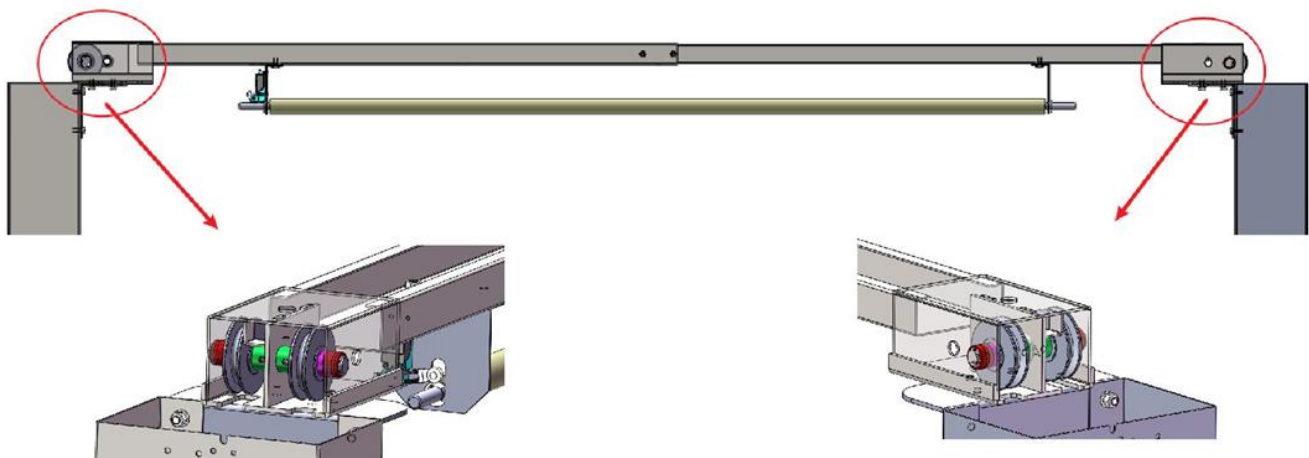

Fig. 8 Symmetric Installation
- A. For symmetrical installation, use the long shaft and the long shaft sleeve to fix the cable pulley (pre-installed) (See Fig.8).